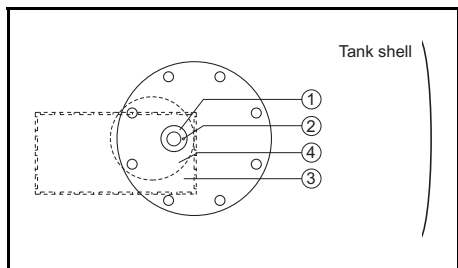

Figure 6.7 Position of antenna assembly on the roof (manhole) nozzle
Refer to figure 6.7.
The position of the antenna is indicated by line (3) in figure 6.7, when installed towards the tank centre.